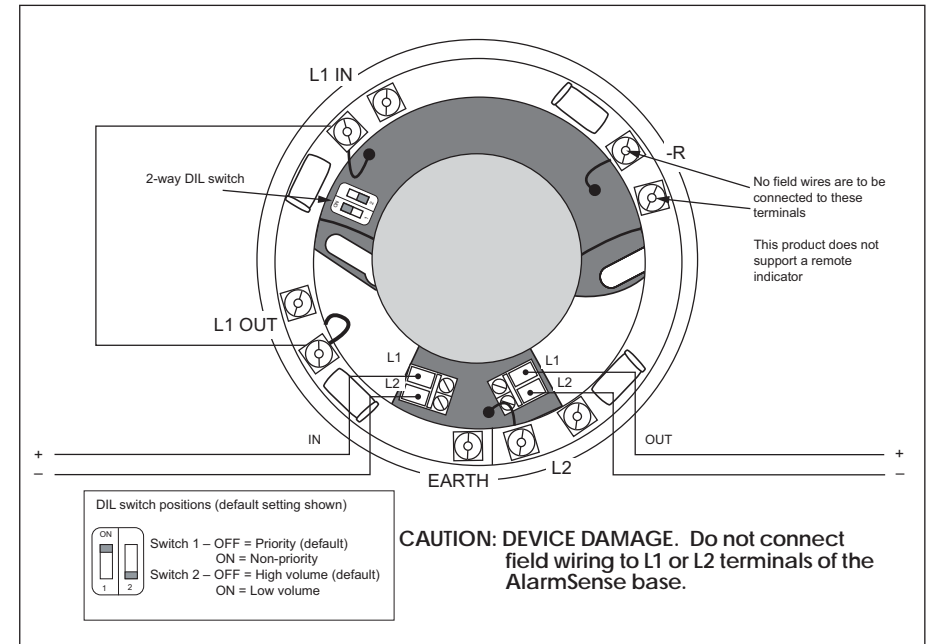

Fig. 2b Stand-alone Sounder/Sounder Visual Indicator Base
With reference to Fig 2b, for stand-alone sounders or sounder visual indicators, fitted with either a white cap, Part No. 45681-294 or red cap, Part No. 45681-295, carry out the following:
2. A wire link (not supplied) is required between L1 IN and L1 OUT on the outer ring terminals to disable the head removal signal, as shown in Fig 2b.